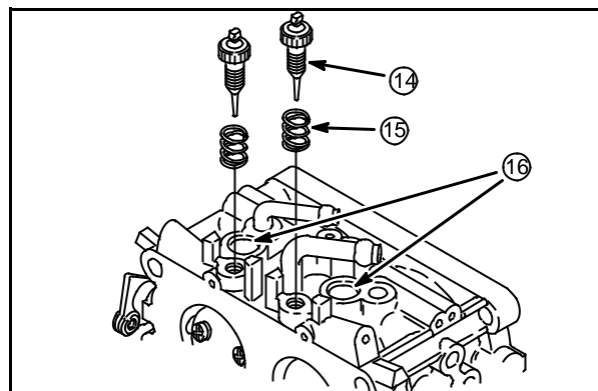

Fig. 71
Install new welch plugs (16) with 5/16" (8 mm) punch, **Fig. 71**.